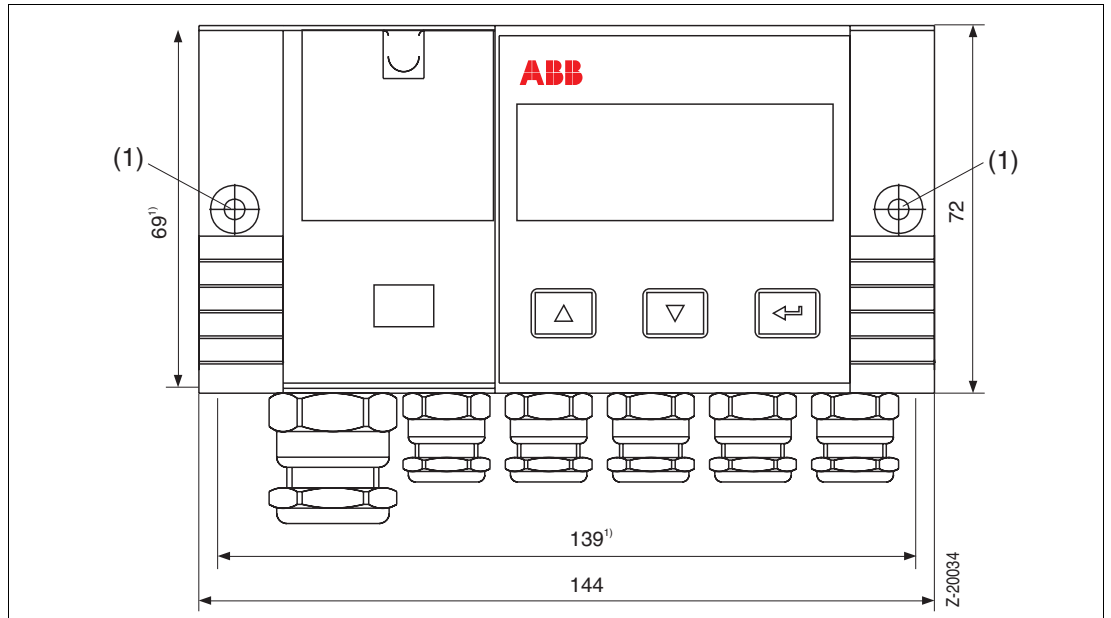
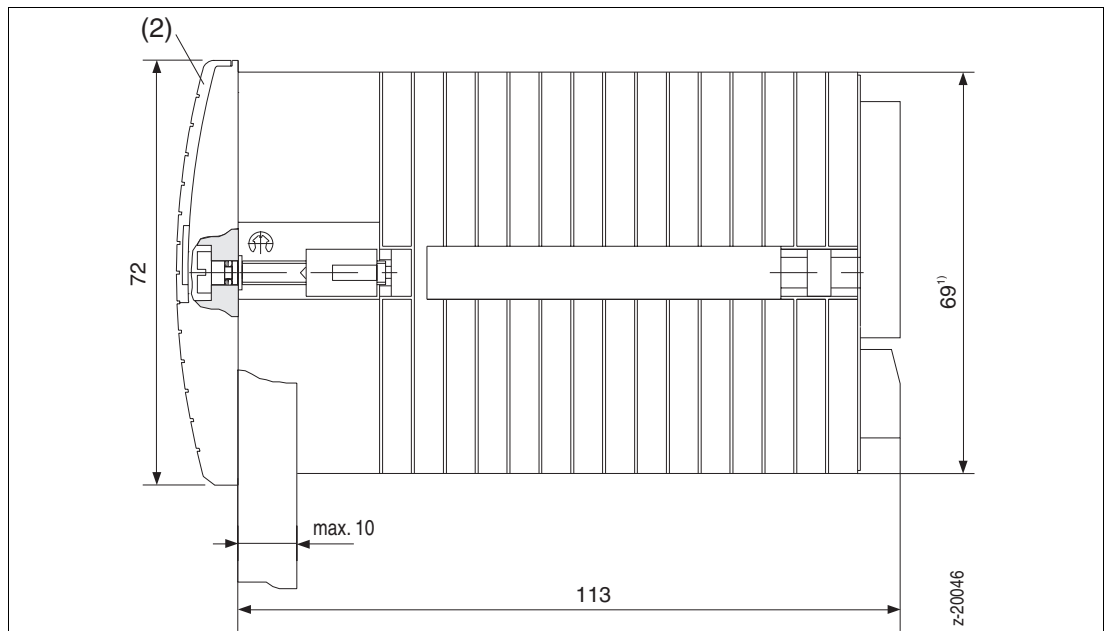

Fig. 3-1 Dimensional drawing, front view, covers removed (all dimensions in mm)
Fig. 3-2 Dimensional drawing, side view, rear part of the housing removed (all dimensions in mm)
2. Remove the small covers (2) (see Fig. 3-2 on page 9) on the left and right hand side to be able to access the fastening screws (1) (see Fig. 3-1 on page 9).
4. Fasten the screws (1) to fix the device in the panel.
5. Replace the covers (2).